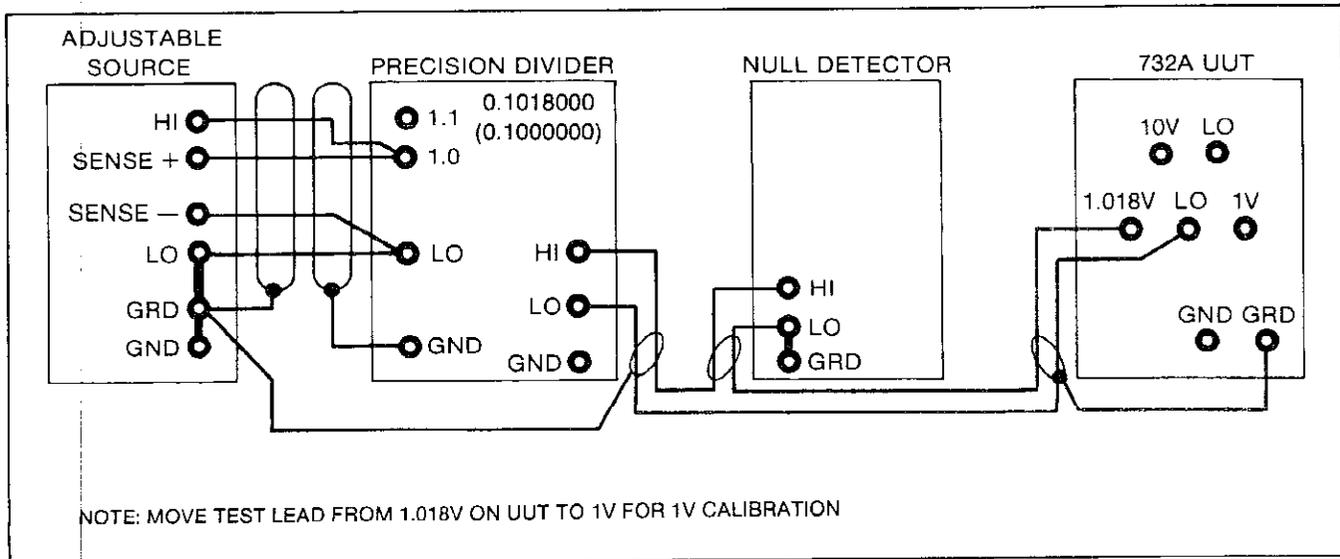

Figure 4-8. Calibration of 1.018V (and 1V) to 732A
11. Connect the equipment as shown in Figure 4-8. Set the Precision Divider ratio switches to 0.1018000.